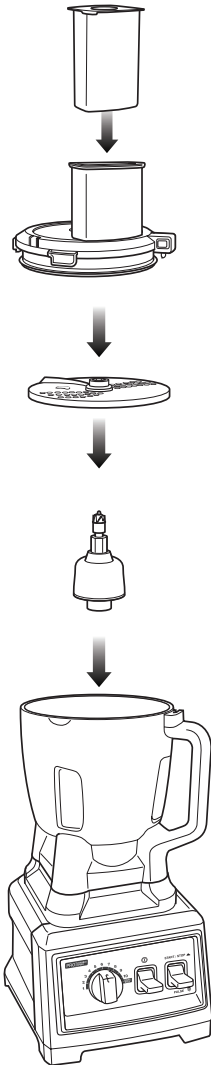

Fig. 24
- 2 Place the motor base on a clean, dry, level surface such as a counter or table top. (Fig. 24)
- 6 Place the feed chute lid on the bowl and turn clockwise to lock in place. (Fig. 24)
- 10 Add the food that you want to slice, shred or grate through the feed chute on the lid. (Fig. 24)